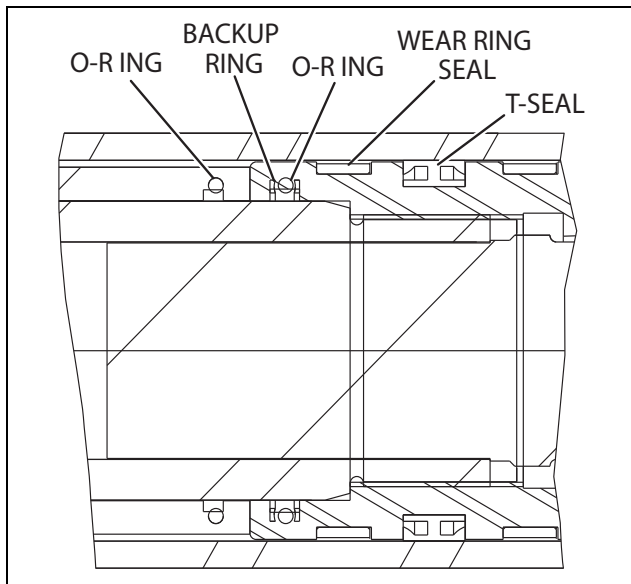

Figure 5-143. Piston Seal Kit Installation
14. Place new guidelocks and seals in the applicable outside diameter grooves of the cylinder piston. (See Figure 5-143., Piston Seal Kit Installation).